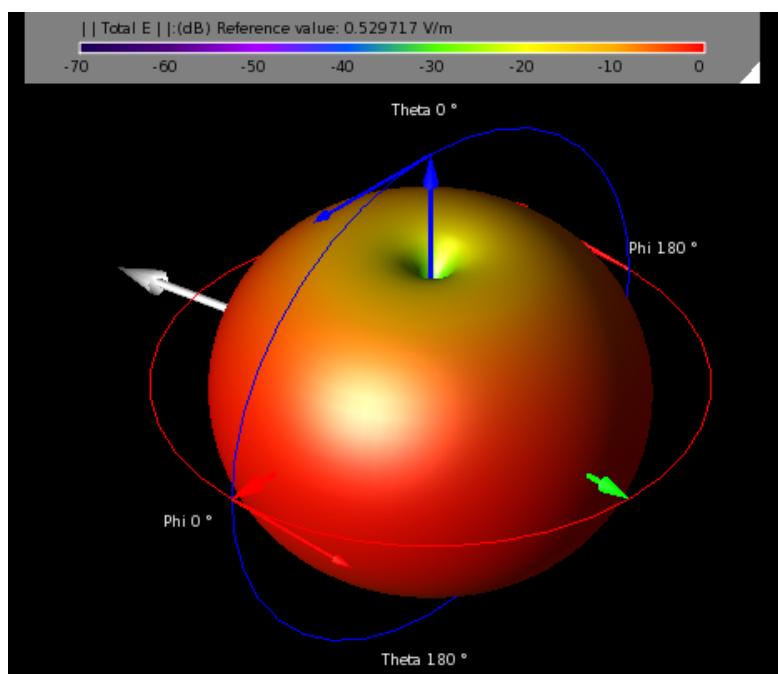

Figure 6.28: Far zone gain data for the monopole project
- Far zone data similar to what is shown in Figure 6.28 will appear.